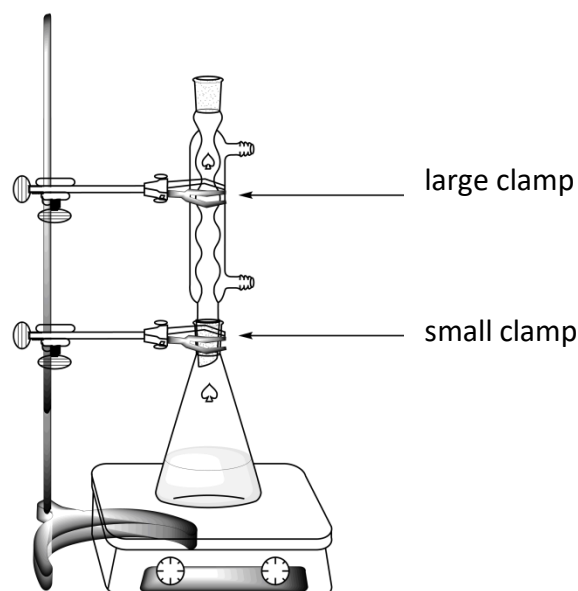

Figure 1. Setup for heating the reaction mixture under reflux
4. **Attach** the reflux condenser by loosening the large clamp and adjusting the ground joints (see Figure 1). **Raise** your HELP card. A lab assistant will come to turn on the water and set the hotplate.
2. Perform the recrystallization of the crude product contained in the 50 mL ground-joint Erlenmeyer flask with the appropriate amount of this water/ethanol mixture, using the same setup as for the reflux heating (see Figure 1). Raise your HELP card. A lab assistant will come to turn on the water and set the hotplate. Add the solvent by the top of the condenser, if needed.